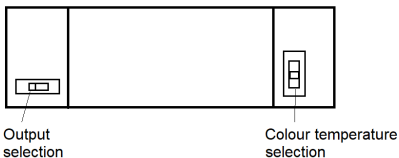

Fig. 3
- Select the desired driver output and colour temperature via the switches on the driver (see Fig. 3)